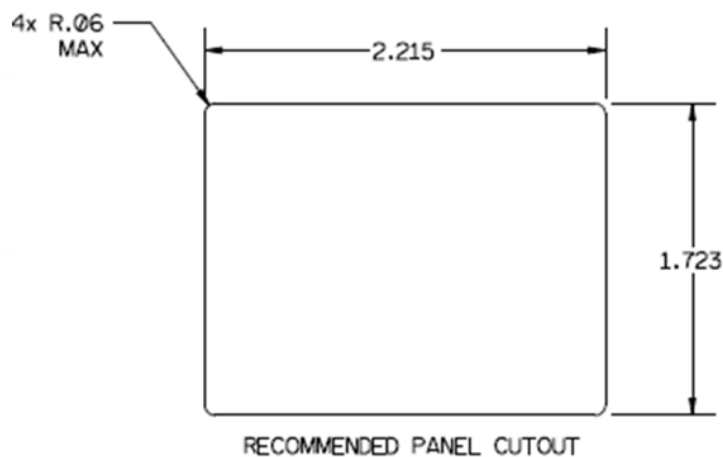
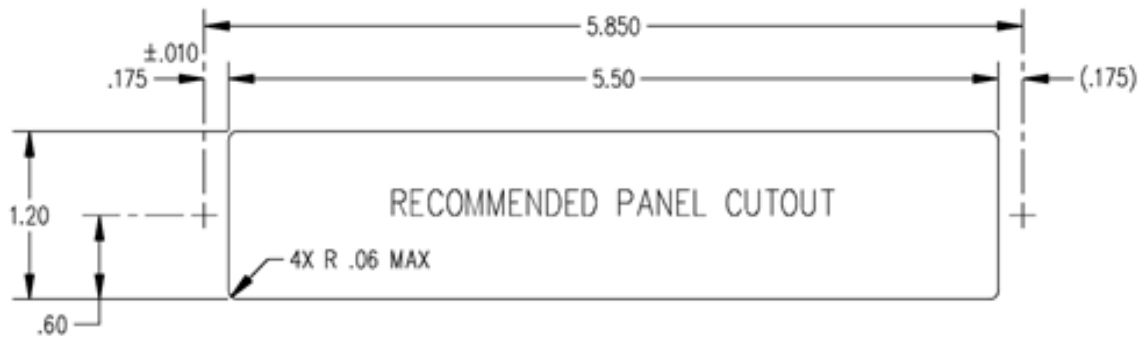
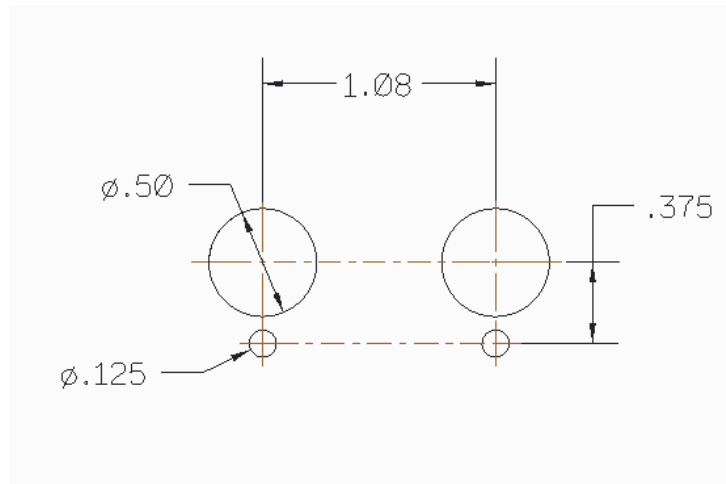
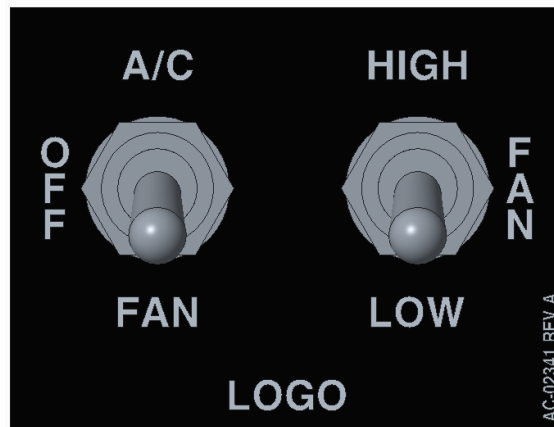

Figure 42 – CB-2 Panel Cutout Dimensions
Figure 43 – A1235 Panel Cutout Dimensions
Figure 44 – Toggle Switch Control Drilling Pattern
Figure 45 – Toggle Switch Control with Placard
- A. Install Climate Controller in instrument panel where space permits. See Figure 42 for CB-2 Controller or Figure 43 for A-1235 Controller below for cutout dimensions. See Figure 44 & Figure 45 for Toggle Switch dimensions and placard illustration.